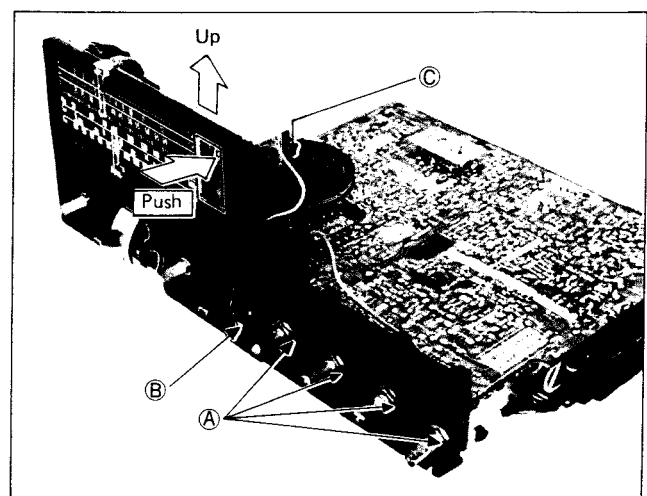

Fig. 7
1. Pull the meter off by softly pushing on its upper portion with a finger (see Fig. 7).
2. Unfasten the four nuts marked (A) and one screw marked (B) in Fig. 7.
3. Unfasten the screw marked (C) in Fig. 7, at the center of the radio variable capacitor pulley, and then extract the pulley from the variable capacitor shaft.